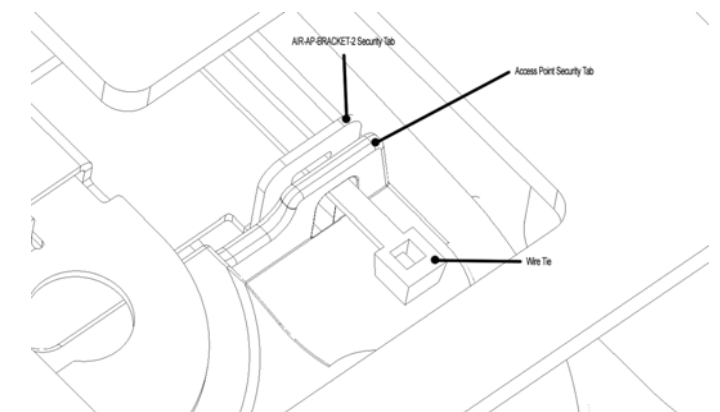

Figure 4
Step 5 – Wrap wire tie around the access point security tab and the mounting bracket tab as shown in Figure 4 so access point does not become dislodged (Cisco APs only).